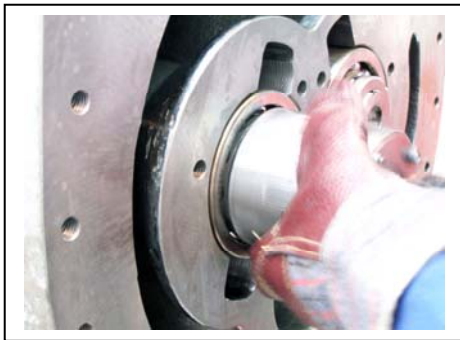

Fig. 36
Carry on the dismantling procedure by unlocking the lockwashers and locknuts securing the thrust bearings (Figs.36 & 37) and remove. The adjusting ring behind the thrust bearing has threaded extensions which enable the ring to be extracted by the use of jacking screws, the operation of jacking out the adjusting ring withdraws the thrust bearing with it (Figs. 37-39).
5. Fit lockwasher/locknut and secure (Fig. 36).